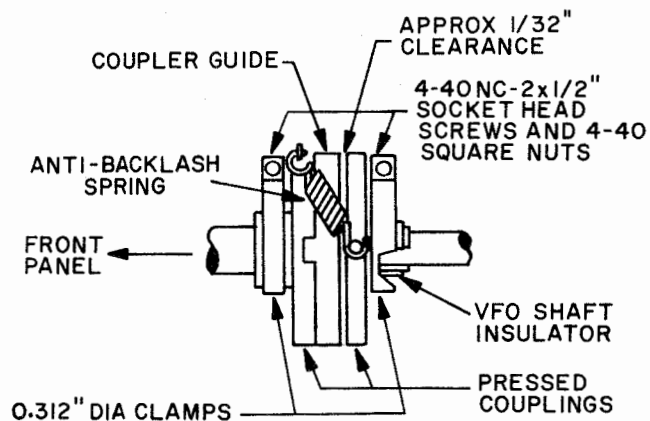

Figure 6-4. Oldham Coupler Details
4. Remove the antibacklash spring on the Oldham coupler (figure 6-4) and loosen the VFO (figure 6-15) shaft clamp nearest the front panel.